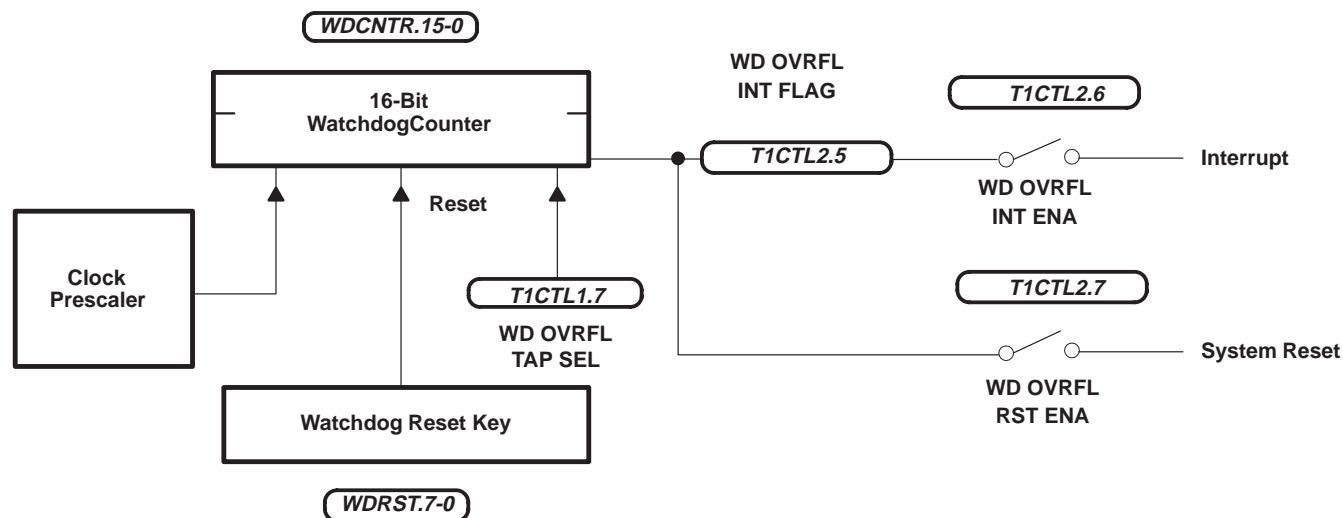

Figure 8. Standard Watchdog
- Standard watchdog configuration (see Figure 8) – for EPROM and mask-ROM devices: